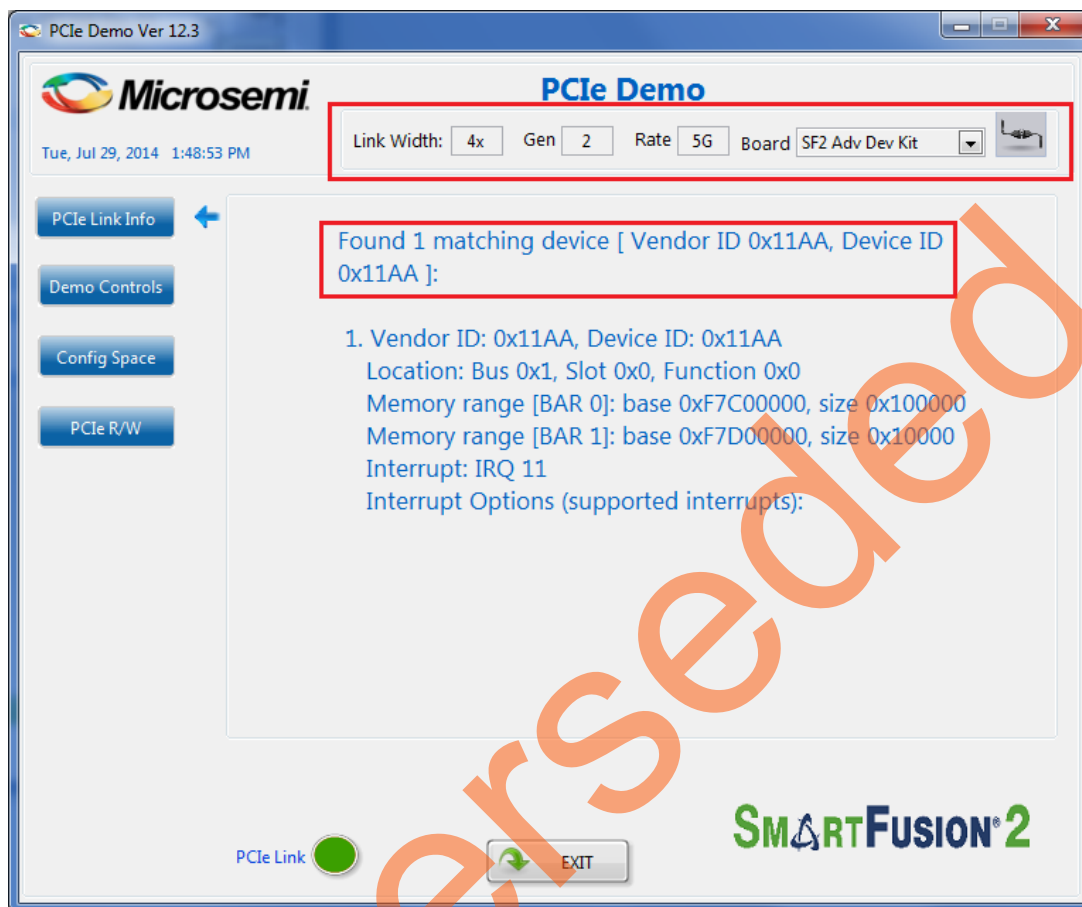
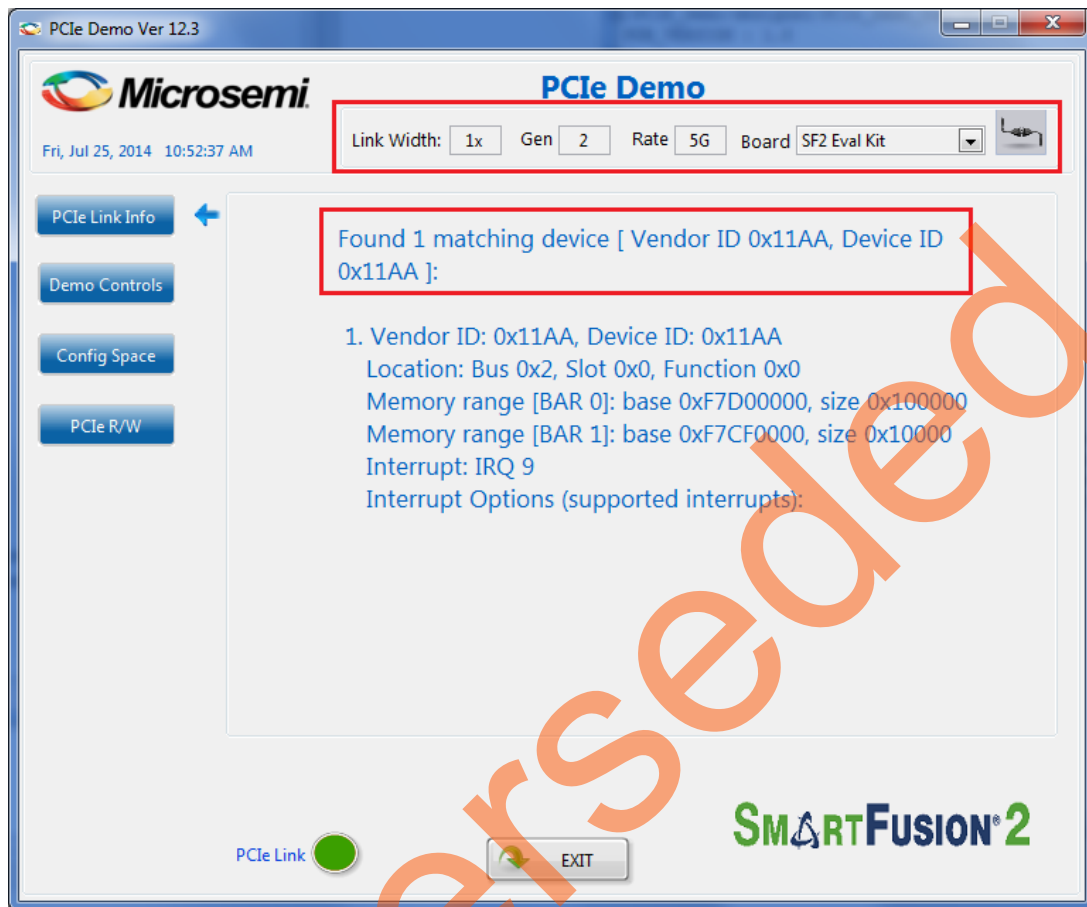

Figure 24 • Version Information
Figure 25 • Version Information
4. Click **Connect** icon at the top-right corner of the GUI. The Link Width, Gen, Rate, and Type of Kit are displayed on the GUI as shown in Figure 24 for SmartFusion2 Advanced Development Kit Board, but for SmartFusion2 Evaluation Kit Board, the GUI is similar to Figure 25.